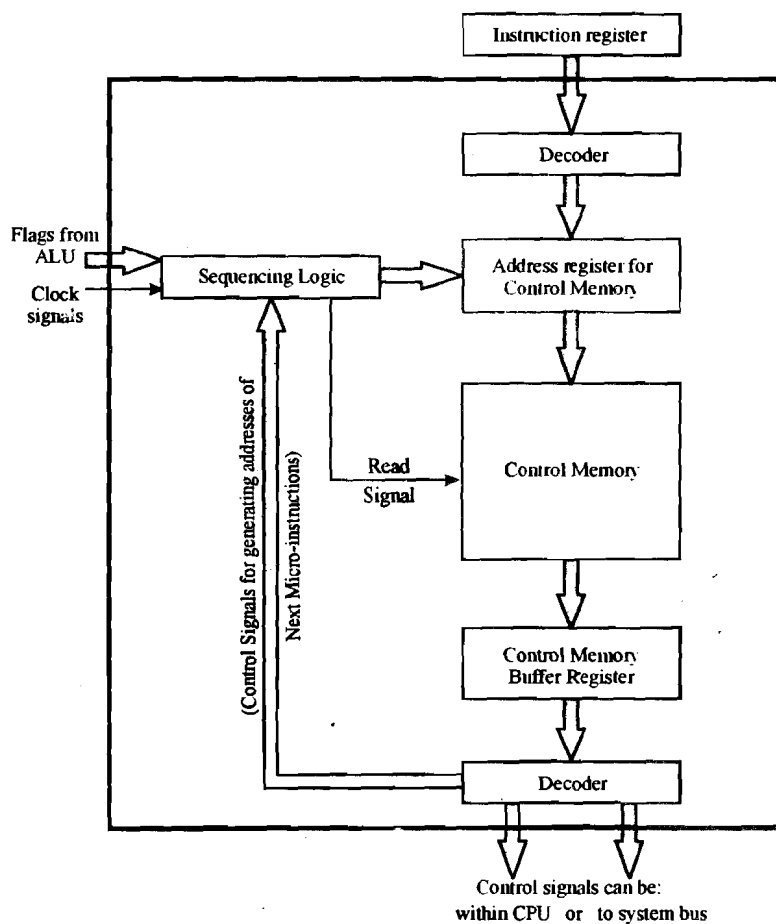

Figure 5: Operation of Micro-Programmed Control Unit
The general configuration of a micro-programmed control unit is demonstrated in Figure 5 below:
As we have discussed earlier, the execute cycle steps of micro-operations are different for all instructions in addition the addressing mode may be different. All such information generally is dependent on the opcode of the instruction Register (IR). Thus, IR input to Address Register for Control Memory is desirable. Thus, there exist a decoder from IR to Address Register for control memory. (Refer Figure 5). This decoder translates the opcode of the IR into a control memory address.
- One of the responsibilities of sequencing logic (Refer Figure 5) is to cause reading of micro-instruction addressed by a micro-program counter into the micro-instruction buffer. ☐